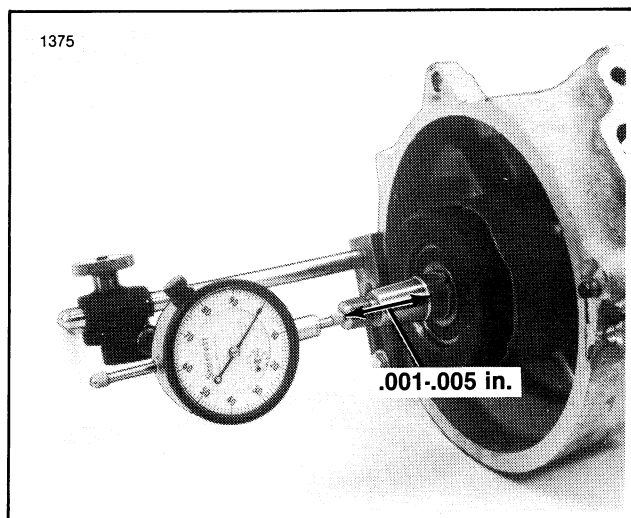

Figure 5-33. Measure And Adjust End Play
10. See Figure 5-33. Clean crankshaft with a lacquer thinner to remove all traces of oil. Polish both crankshaft ball bearings inner race surfaces with #400 wet or dry paper. Now clean and prime the ignition side of the crankshaft and bearing inner races